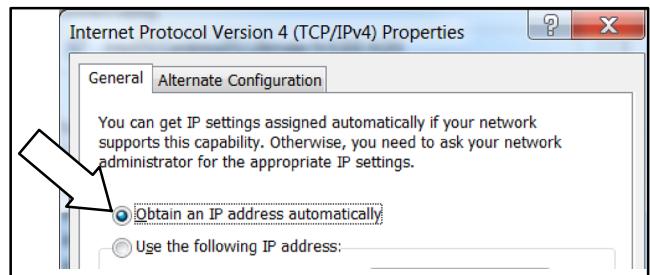

Figure 24 Obtain an IP Address Automatically
14.7 Select Obtain an IP address automatically. See Figure 24.